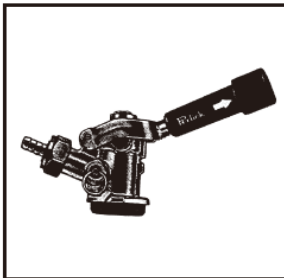

Figure 9
- **Installation of the Keg Tapper:** IMPORTANT NOTICE: Make sure the pull handle of the keg tapper is in the "upward" (closed) position before installing on the beer keg (**Figure 9**). Insert the keg tapper into the locking neck of the beer keg and apply a 1/4 turn clockwise to lock into position.